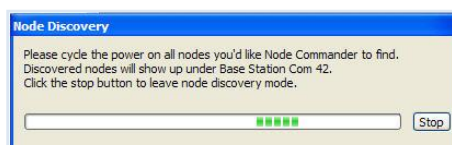

Figure 2. Node Discovery
3. Click Node Discovery and the Node Discovery window will appear. See Figure 2.